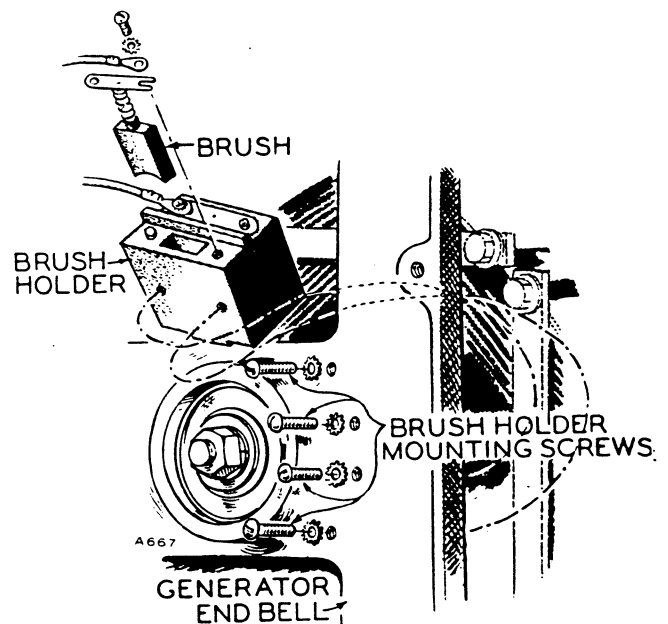

FIGURE 12. BRUSH REMOVAL
To examine the brushes, brush springs and slip rings remove the exciter cover from the alternator. Remove the screws from the right side of the exciter plate and swing the exciter assembly outward. To remove the brush holders, unscrew the four machine screws from the end bell, Figure 12. Do this every 500 hours.
2. Remove the exciter cover and exciter screws. Swing out exciter. Remove brush holder screws (Figure 12), and lift the brush holders so they are fully clear of the slip rings.